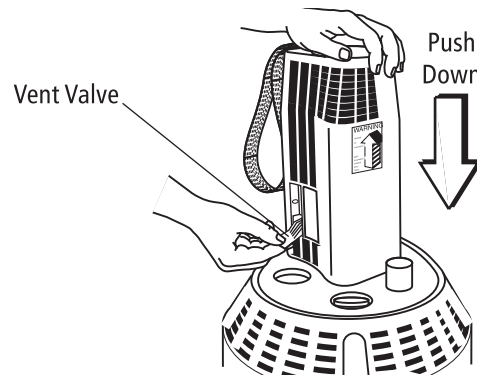

Figure 1-9: Opening the Vent Valve
7. While holding the Companion 1000/T in this position, move the vent valve lever to the open position, 90° from the normal OFF position (Figure 1-9). A loud hissing noise will result.